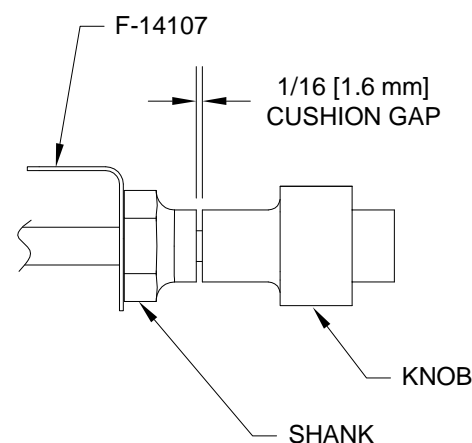

FIGURE 1: CONTROL CABLE, TYPICAL
Step 2: Route and install the propeller control cable as shown in Figure 1 and Figure 2. Ensure the propeller control cable installation meets the vital criteria listed on Page 50-02. See Page 43-07 for more information on adjusting the propeller governor arm and faceplate.
Step 3: Install the mixture control cable as shown in Figure 1, Figure 3 and Section OP-22, Ensure the mixture control cable installation meets the vital criteria listed on Page 50-02. If necessary, adjust the clocking of the mixture arm.